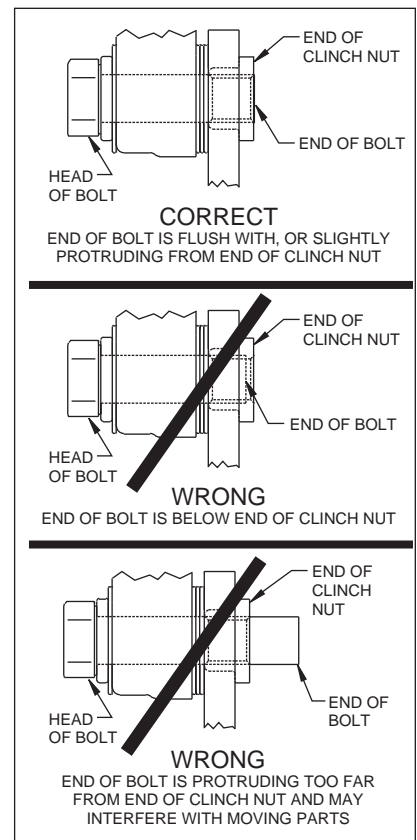

Figure 5.
- Install the dust cap (18) onto the hub (7). Friction created by the o-ring (17) on the dust cap (18) keeps it from unscrewing. The O.D. of the existing spindle washer may be larger than the I.D. of the dust cap (18) which may allow the washer to contact the dust cap (18). Use the spindle washer (16) supplied with the kit instead of the stock washer.
- NOTE:** Please reference the caution statement at the beginning of the assembly instructions. Mount the caliper (19) onto the caliper bracket (1) using two bolts (21), two washers (20) and two 0.032 inch thick shims (22). Finger tighten. View the rotor (11) through the top of the caliper (19). The rotor (11) should be aligned in the center of the caliper (19). If not, loosen the two bolts (21) and adjust the caliper (19) by using 0.032 inch thick shim washers (22). The shim washers (22) should be placed between the caliper (19) and the caliper mounting bracket (1). Finger tighten and recheck alignment. Add as many shim washers (22) as necessary to achieve the correct alignment. **NOTE:** The end of the bolt must be flush with or slightly protruding from the head of the clinch nut. See Figure 5. Place spare shims (22) between washer and caliper mounting ear to achieve the proper mounting fastener configuration. Always use the same amount of shims on both the top and bottom caliper mounting bolts (21). Loosen the two bolts (21) and apply red *Loctite*® 271 to the bolt threads (21) and torque to 40 ft-lb. Safety wire the two bolts (21).
- Install the disc brake pads (23) into the caliper (19). Secure the disc brake pads to the caliper utilizing cotter pin (24).